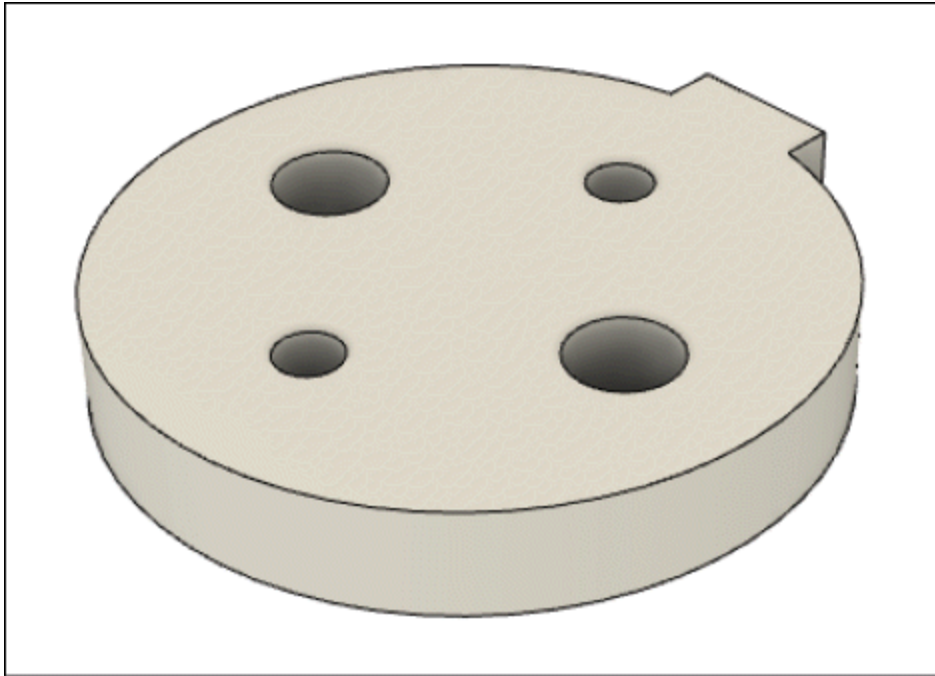

Figure-139. Plastic rule assigned to the component
- After selecting desired plastic rule, click on the **OK** button from the dialog box. The plastic rule will be assigned to the component; refer to Figure-139.